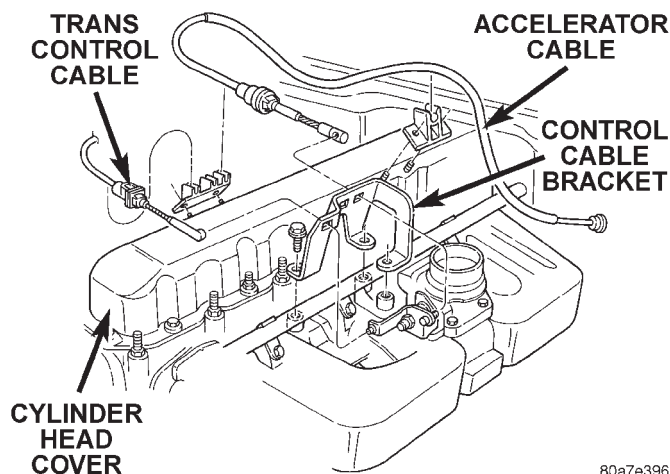

Fig. 31 Engine Cylinder Head Cover
- (1) Disconnect negative cable from battery.
- (2) Disconnect the Crankcase Ventilation (CCV) vacuum hose from engine cylinder head cover.
- (3) Disconnect the fresh air inlet hose from the engine cylinder head cover.
- (4) Disconnect the accelerator, transmission, and speed (if equipped) control cables from the throttle body (Fig. 31).
- (5) Remove the three bolts that fasten the control cable bracket to the intake manifold.
- (6) Remove control cables from cylinder head cover clip.
- (7) Position control cables and bracket away from cylinder head cover secure with tie straps.
- (8) Remove the engine cylinder head cover mounting bolts.
- (9) Remove the engine cylinder head cover and gasket.